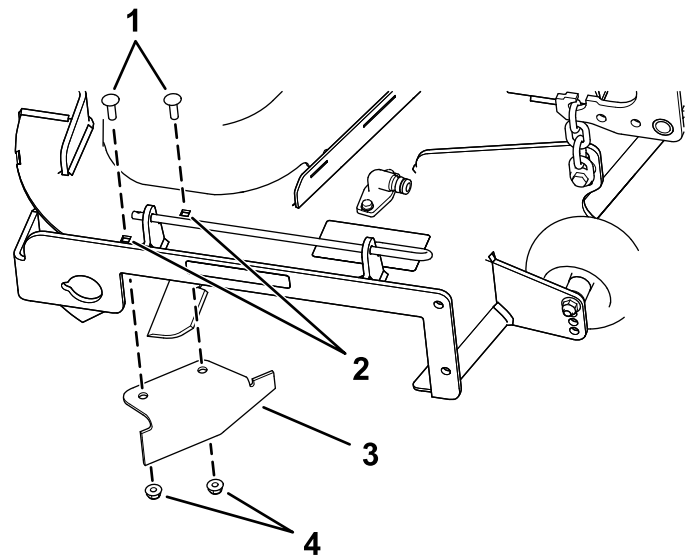

Figure 16
- Locate the cutoff baffle in the loose parts bag and remove the fasteners at the rear holes of the discharge plate (Figure 16).